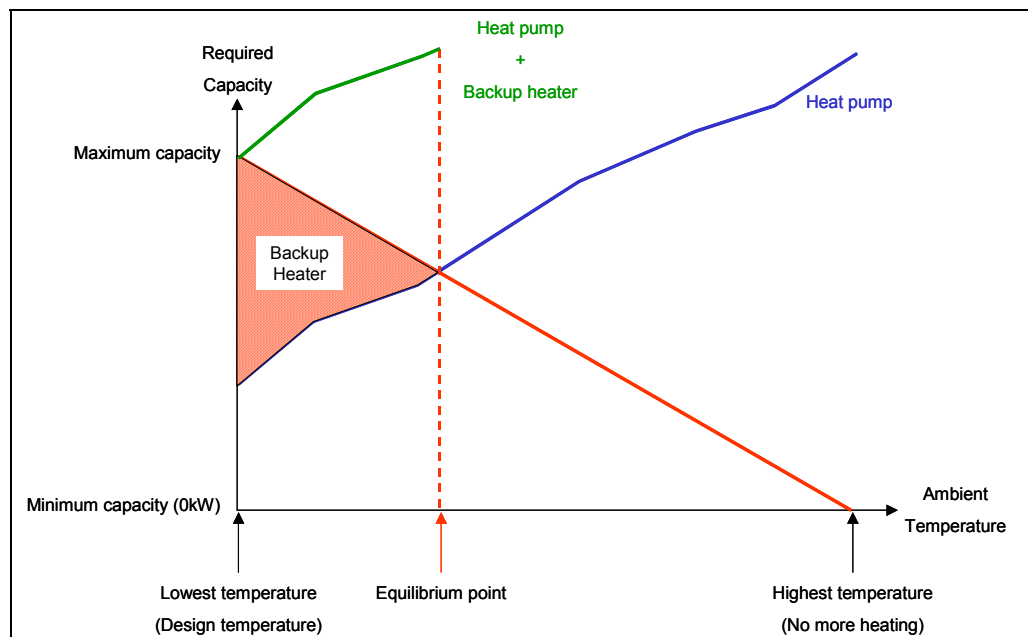

Figure 10: A solution with heat pump and backup heater
A Daikin Altherma solution consisting of a heat pump and a backup heater, such as System 2, may be a cheaper solution, provided the electrical backup heater is not used too frequently during the year and covers the (small) capacity shortage at low ambient temperature values, as shown in Figure 10:
1. The definition of a MCS (Micro-generation Certificate Scheme) temperature for which Daikin Altherma must ensure that the required capacities at this value and for all temperature values above are always and only covered using only the heat pump. This means that the MCS temperature must be on the equilibrium point (see Figure 10) or at its right. The current company database contains MCS temperature values for cities in the United Kingdom.